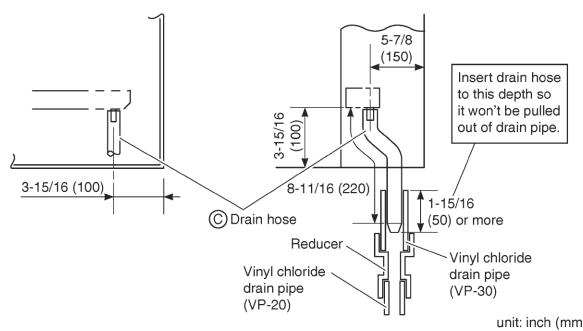

Fig. 1
- Perform drain piping work as outlined in the figure. (See Fig. 1)